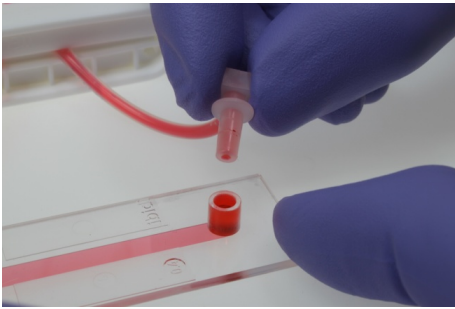

Figure 32 – Fill the reservoir before connecting the Luer adapter.
2. Before connecting the Perfusion Set to the  $\mu$ -Slide, the reservoirs of the slide must be filled to the top to avoid trapping bubbles in the reservoir (Figure 32). For a detailed description, refer to Application Note 13, “Endothelial Cells Under Perfusion”.